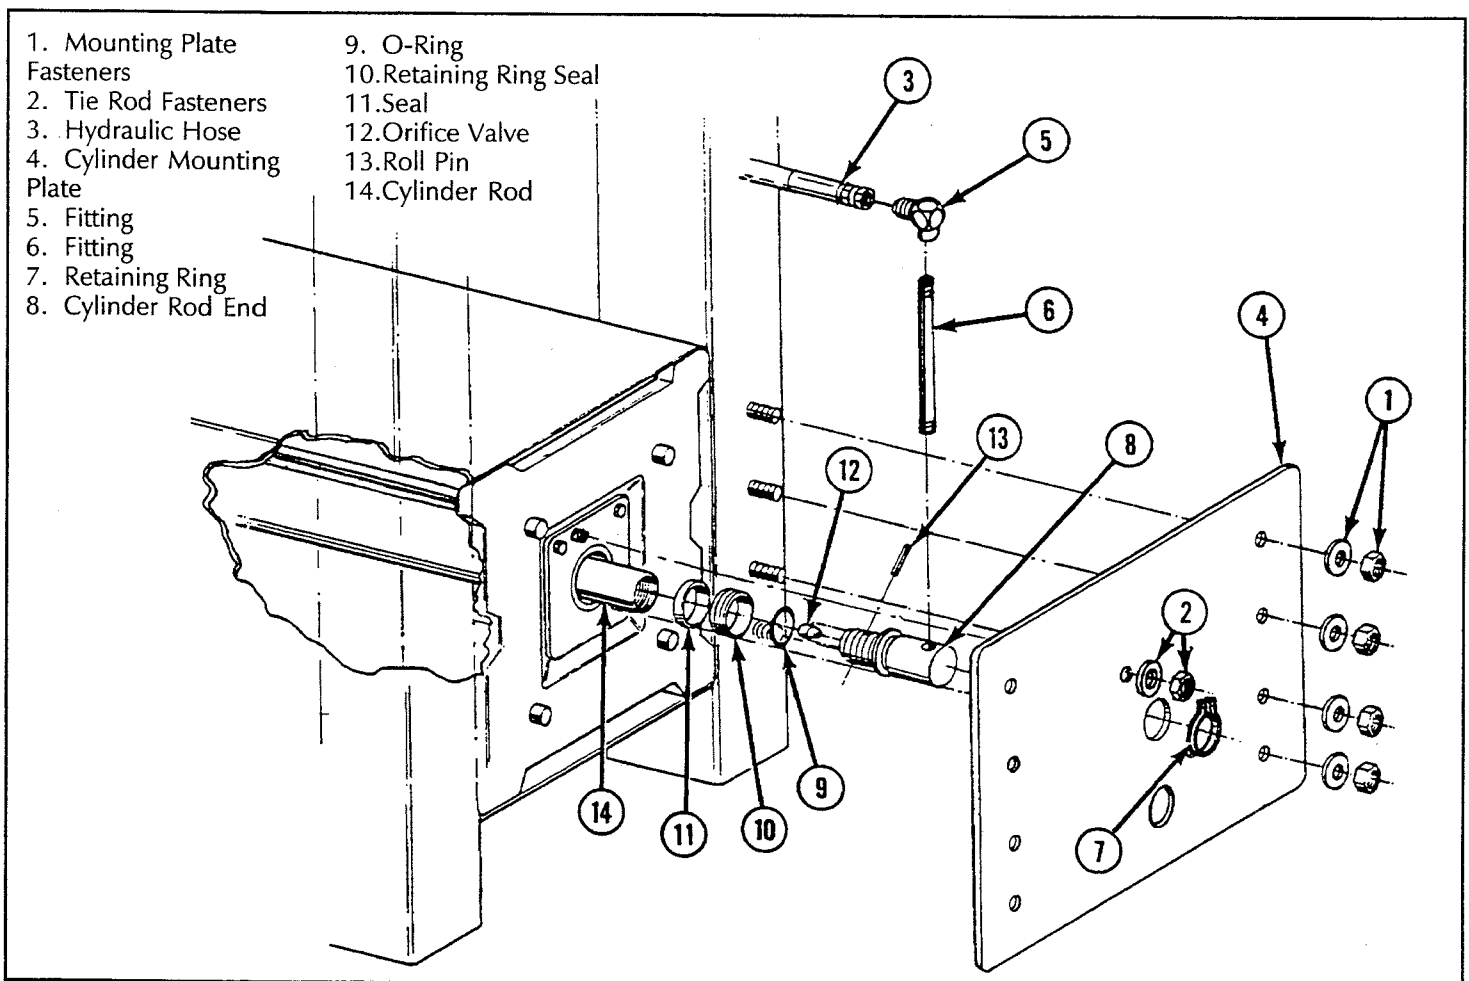

Figure 4-8: Lift Cylinder Assembly
4.6 Cylinder Assembly**SEAL REPLACEMENT (Figure 4-8)**
ORIFICE VALVE CLEANING (Figure 4-8)